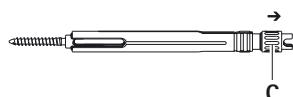

Fig. 6
- Turn fixing screw **C** in the direction of the arrow until the thread in the direction of the working end becomes visible, see Fig. 6.